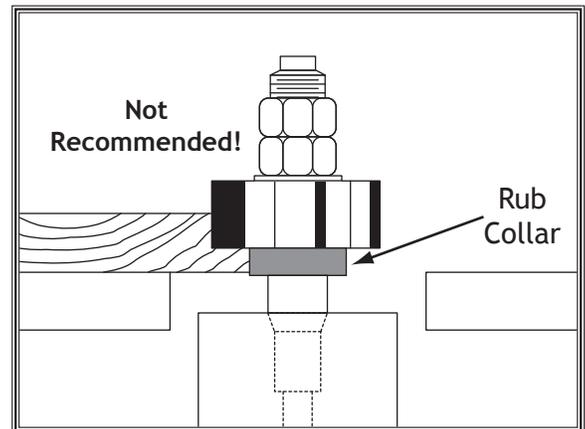

Figure 52. Rub collar installed below the cutter—NOT recommended!
- Rub collar below the cutter:** When the rub collar is placed below the cutter, as illustrated in **Figure 52**, the progress of the cut can be observed. However, unintentional movement may lift the workpiece, damaging your work and increasing the risk of injury to the operator. **We DO NOT recommend using the rub collar below the cutter!**